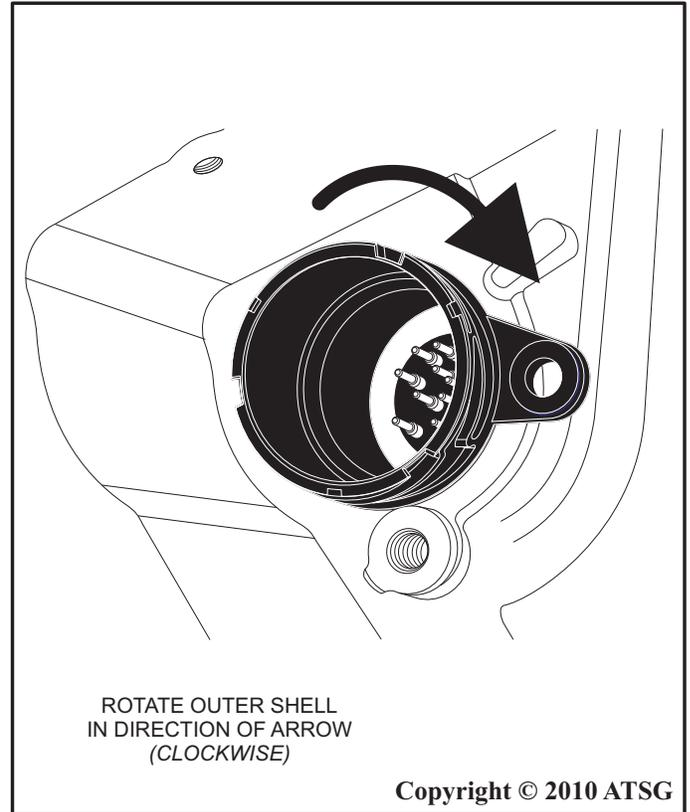

Figure 35
84. Install the outer shell into the transaxle case assembly and rotate clockwise to latch it into the case and lock it into the mechatronic unit assembly as shown in figure 35.